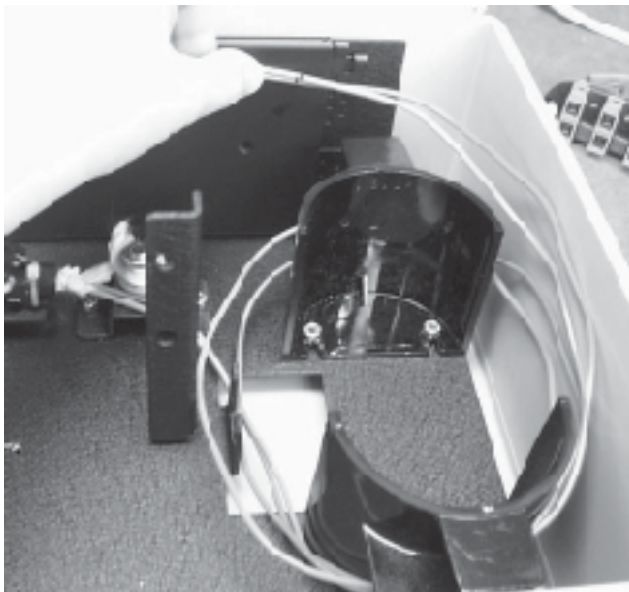

Figure 15
- c) Place the buffer tube(s) where they will lie after installation and mark the cable where it will enter the splice tray 2 cm ($3/4$ inch) past the corner of the tray (Figure 15). (This is where the buffer tube will be removed.)